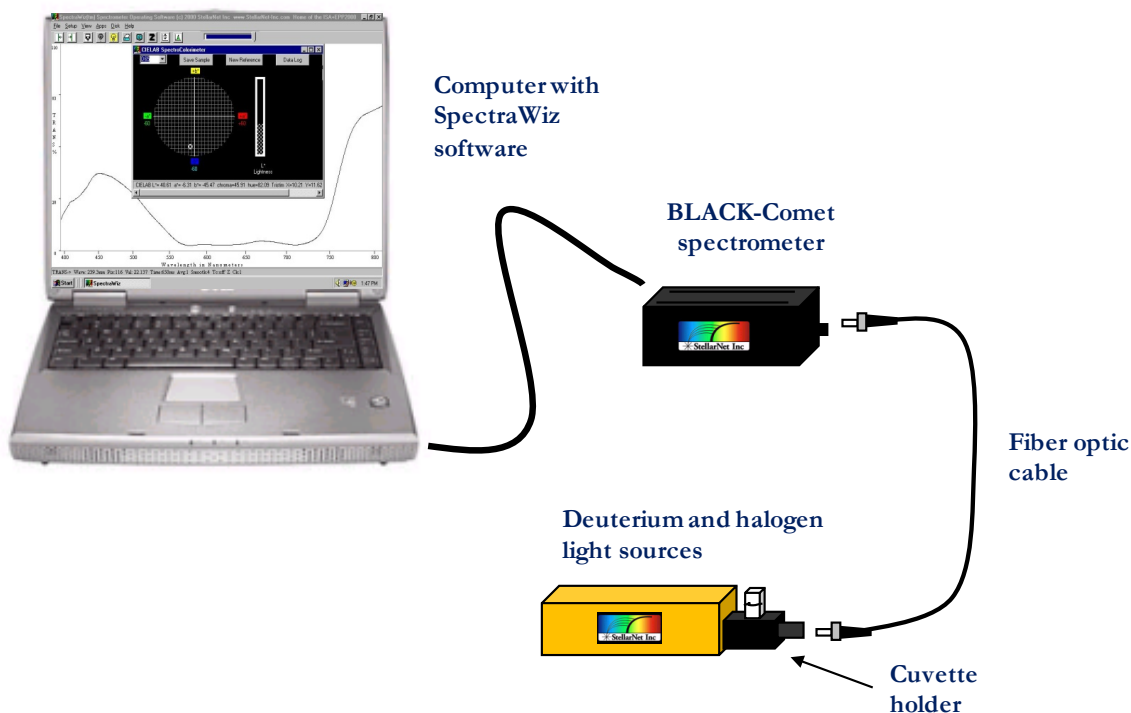

Figure 1: StellarNet UV-visible spectroscopy system
4. Familiarize yourself with the spectrometer system you will use for this experiment. Using Figure 1 as a guide, explain how the spectrometer, light source, and computer (with spectroscopic software) will allow you to measure absorbance.